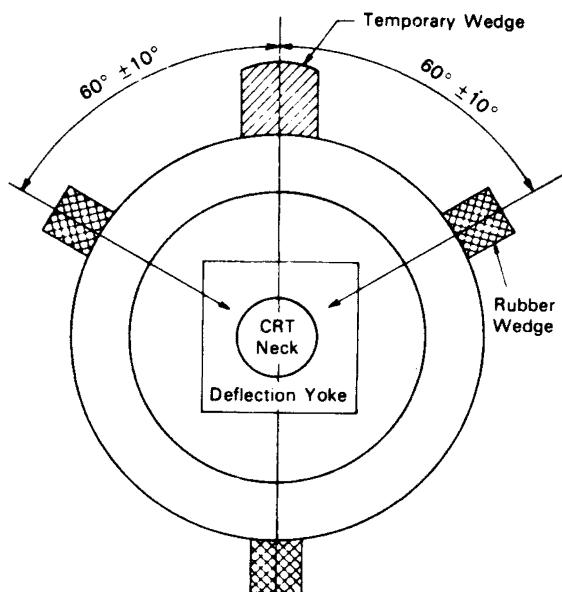

FIGURE 9
4. Insert three rubber wedges to the position as shown in Fig. 9 to obtain the best circumference convergence.
4) The angle of each rubber wedges are shown in Fig. 9.